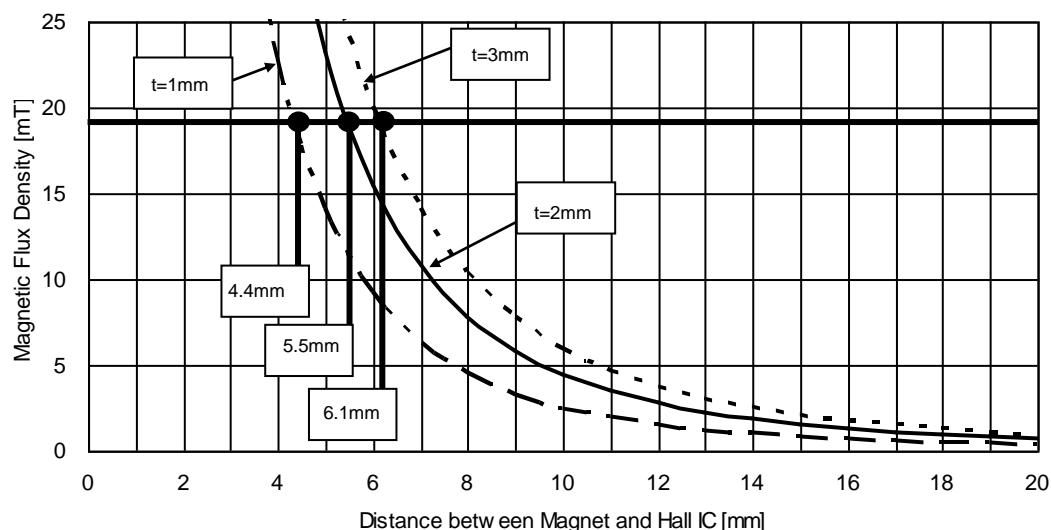

Figure 18. Magnetic Flux Density vs Distance between Magnet and Hall IC
Of the two representative varieties of permanent magnet, neodymium generally offers greater magnetic power per volume than ferrite, thereby enabling the highest degree of miniaturization, thus, neodymium is best suited for small equipment applications. Figure 18 shows the relation between the size (volume) of a neodymium magnet and magnetic flux density. The graph plots the correlation between the distance (L) from three versions of a 4mm x 4mm cross-section neodymium magnet (1mm, 2mm, and 3mm thick) and magnetic flux density. Figure 19 shows Hall IC detection distance – a good guide for determining the proper size and detection distance of the magnet. Based on the BU52177GXZ operating point max of 19.0mT, the minimum detection distance for the 1mm, 2mm and 3mm magnets would be 4.4mm, 5.5mm, and 6.1mm, respectively. To increase the magnet's detection distance, either increases the magnet's thickness or sectional area.